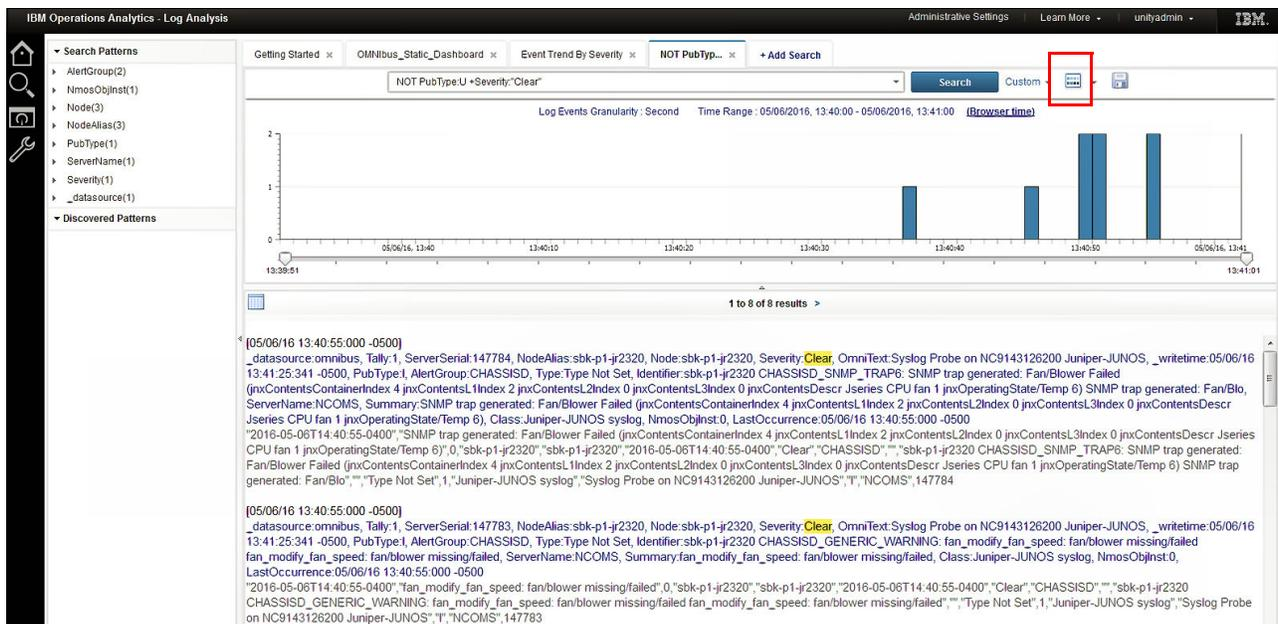

Figure 7-7 Event details
10. Jane selects the node host name and drills down to see the events that contain that host name. By carrying out this search further, she sees the events that show where the problem is occurring. She clicks the **NOTPubType** tab and sees the devices or locations that are responsible for the flood, as shown in Figure 7-7.
11. Jane clicks the small **grid** icon (as shown in the red box in Figure 7-7).